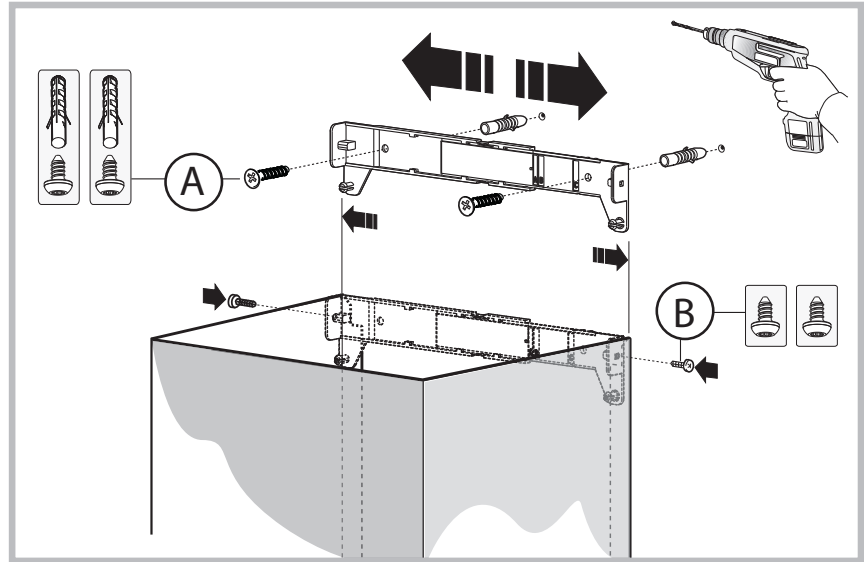
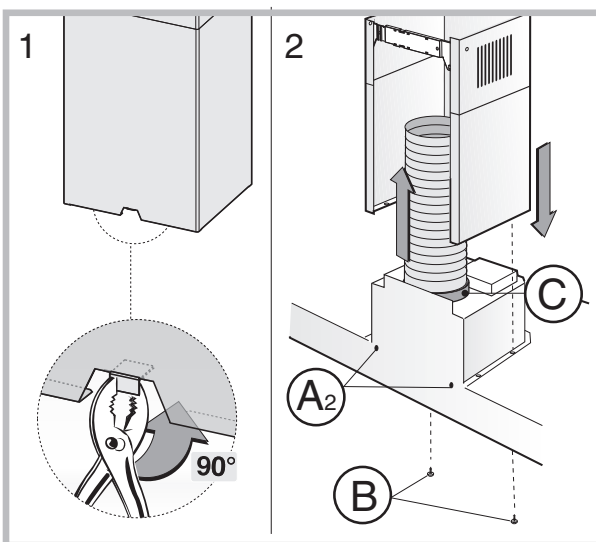

Fig.3B
Fig.5
When the appliance has been adjusted, definitely fix the hood using the screws **A2** (Fig.5).
**warning!** If your appliance model features the lower connector with a tab, before fixing it in place bend the tab inwards using a pair of pliers, as illustrated in **figure 5, step1**.
Adjust the width of the support bracket of the upper flue (Fig.3B).
Then fix it to the ceiling using the screws **A** (Fig.3B) in such a way that it is in line with your hood and respecting the distance from the ceiling indicated in Fig.2.
Connect the flange **C** to the air exhaust hole using a connection pipe (Fig.5).
Insert the upper flue into the lower flue. Fix the lower flue to the hood using the screws **B** provided (Fig.5), extract the upper flue up to the bracket and fix it with the screws **B** (Fig.3B).